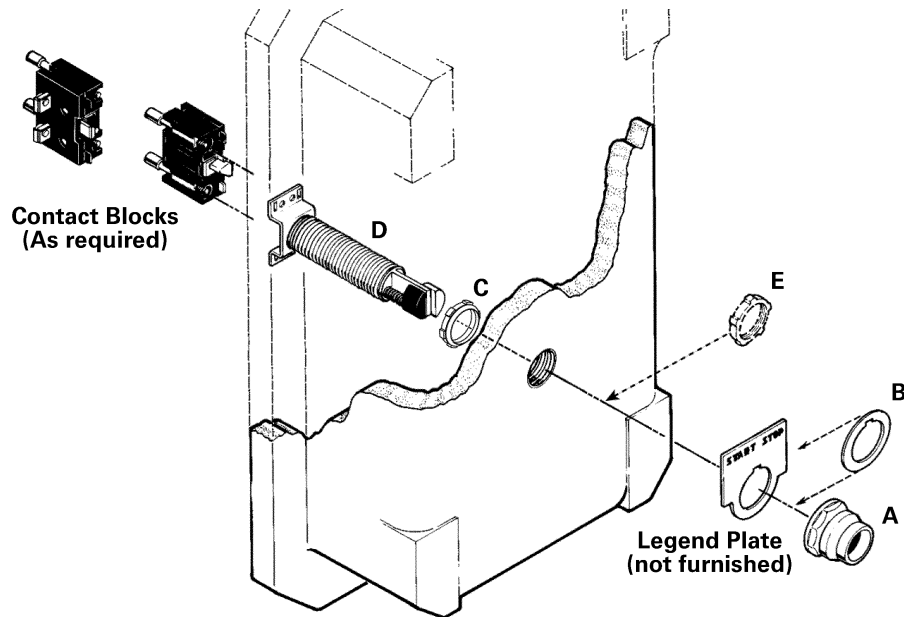

Figure 1
6. From inside the enclosure, install assembly **D** through a 3/4 inch 14NPSM tapped hole until the front of the bushing projects 4 or 5 threads from the front surface of the enclosure. Position the bushing with the flush black pushbutton cap to the operator's left as shown in Figure 1. Proper positioning of the bushing is required to match the push button caps with the legend plate inscriptions and also provides vertical alignment of the contact block terminals.